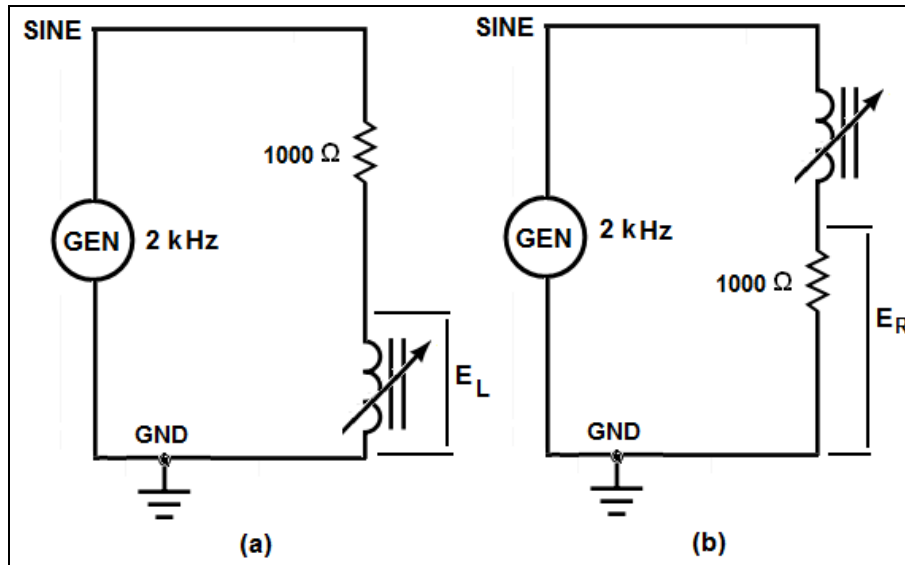

Fig. 1-5 Step 20
20. Construct the circuit shown in Fig. 1-5(a). Again, the sine wave generator on the **ET-3100** will be used as the signal source. You will use this circuit to determine the maximum and minimum values of inductance for the inductor. In addition, you will demonstrate how inductive reactance varies with changes of inductance and frequency.
23. Reverse the leads from the generator so that the circuit configuration appears like the one in Fig. 1-5(b). Measure the voltage across the resistor and record it in the space provided. $E_{R(min)} = \underline{\hspace{2cm}}$ volts.
24. Using the voltage values measured above and the other circuit values shown in Fig. 1-5, compute the inductance of this coil and record below.